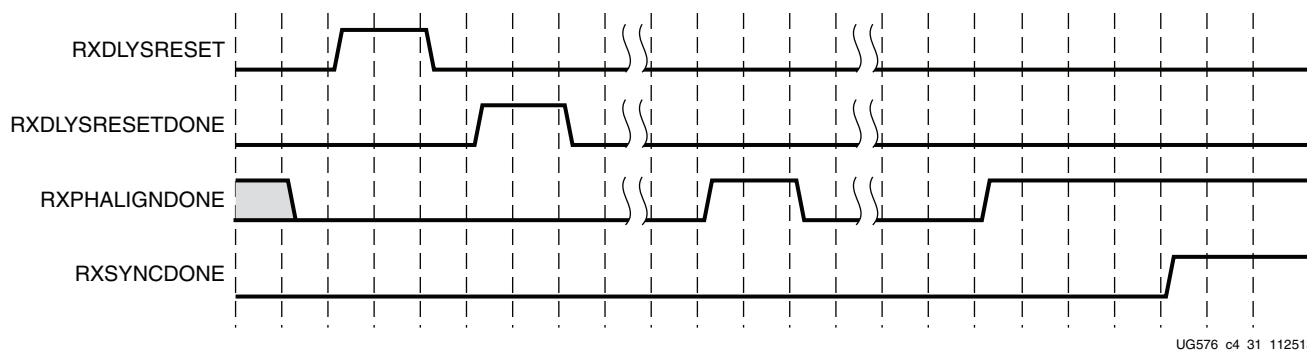

Figure 4-31: RX Buffer Bypass Example—Single-Lane Auto Mode
Figure 4-31 shows the required steps to perform the auto RX phase alignment and use the RX delay alignment to adjust RXUSRCLK to compensate for temperature and voltage variations.
Notes relevant to Figure 4-31:
1. The sequence of events in Figure 4-31 is not drawn to scale.